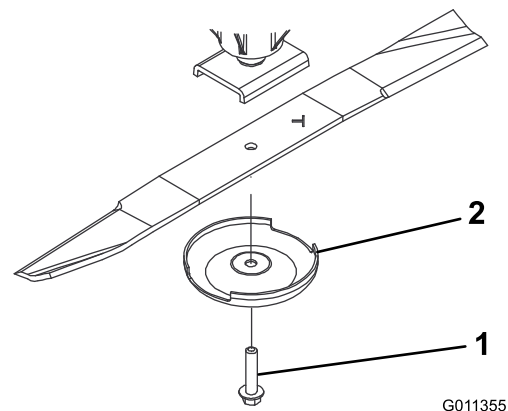

Figure 72
- Grasp the end of the blade using a rag or thickly padded glove and remove the blade bolt, anti-scalp cup, and blade from the spindle shaft (Figure 72).
- Install the blade with the sail facing toward the cutting deck, with the anti-scalp cup and blade bolt (Figure 72).